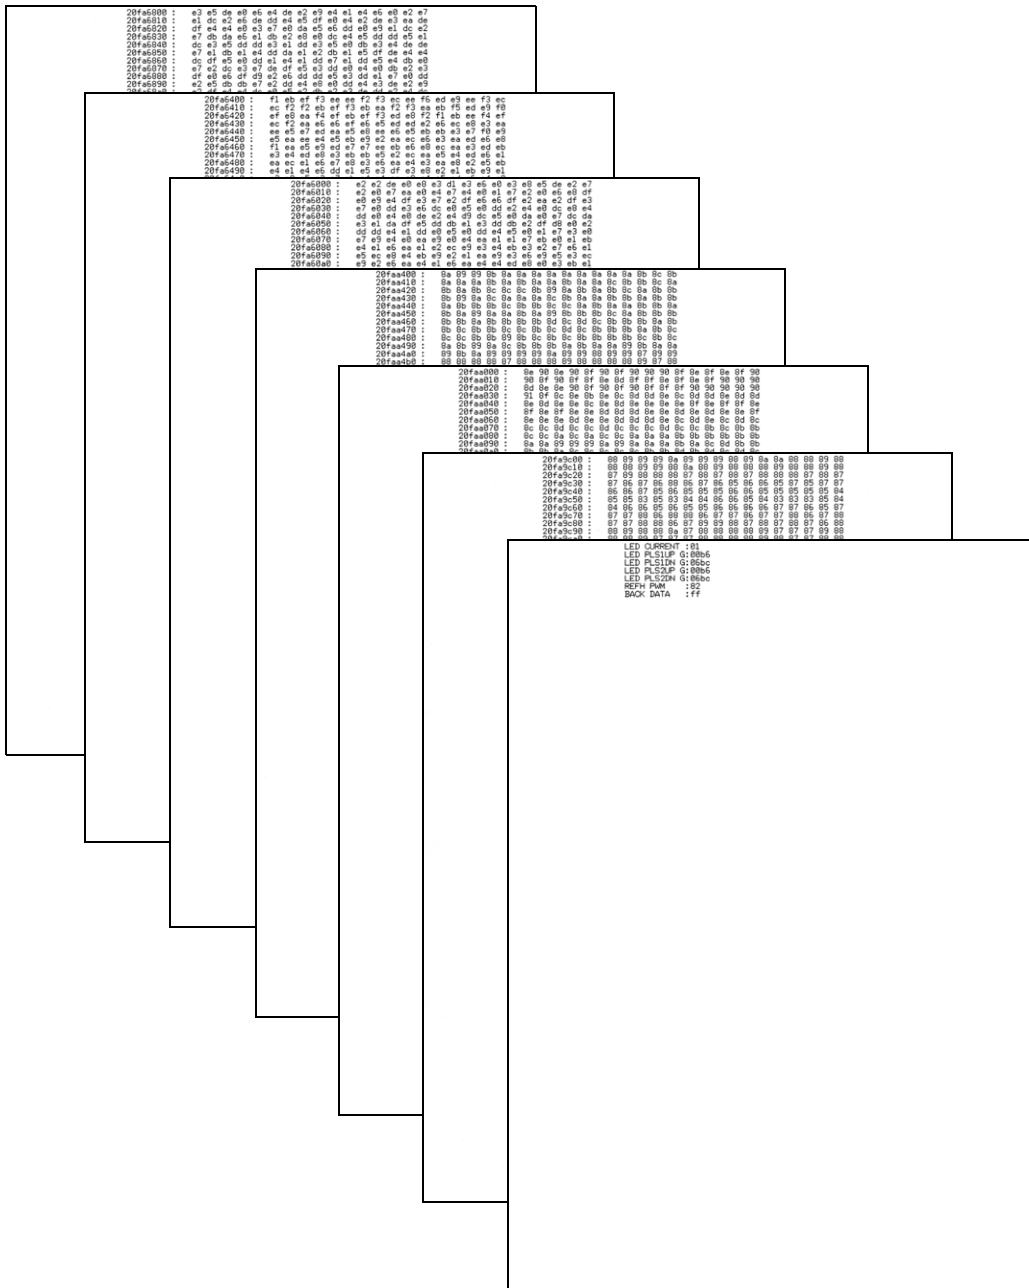

Fig. 5-1
- (1) For white and black scanning, copy the document. For color scanning, implement color scanning of the document.
- (2) Press the [0] and [5] buttons in this order in the initial state of the maintenance mode. "PRINTING" appears on the LCD, and the machine prints the scanning compensation data list (refer to Fig. 5-1) containing the following: